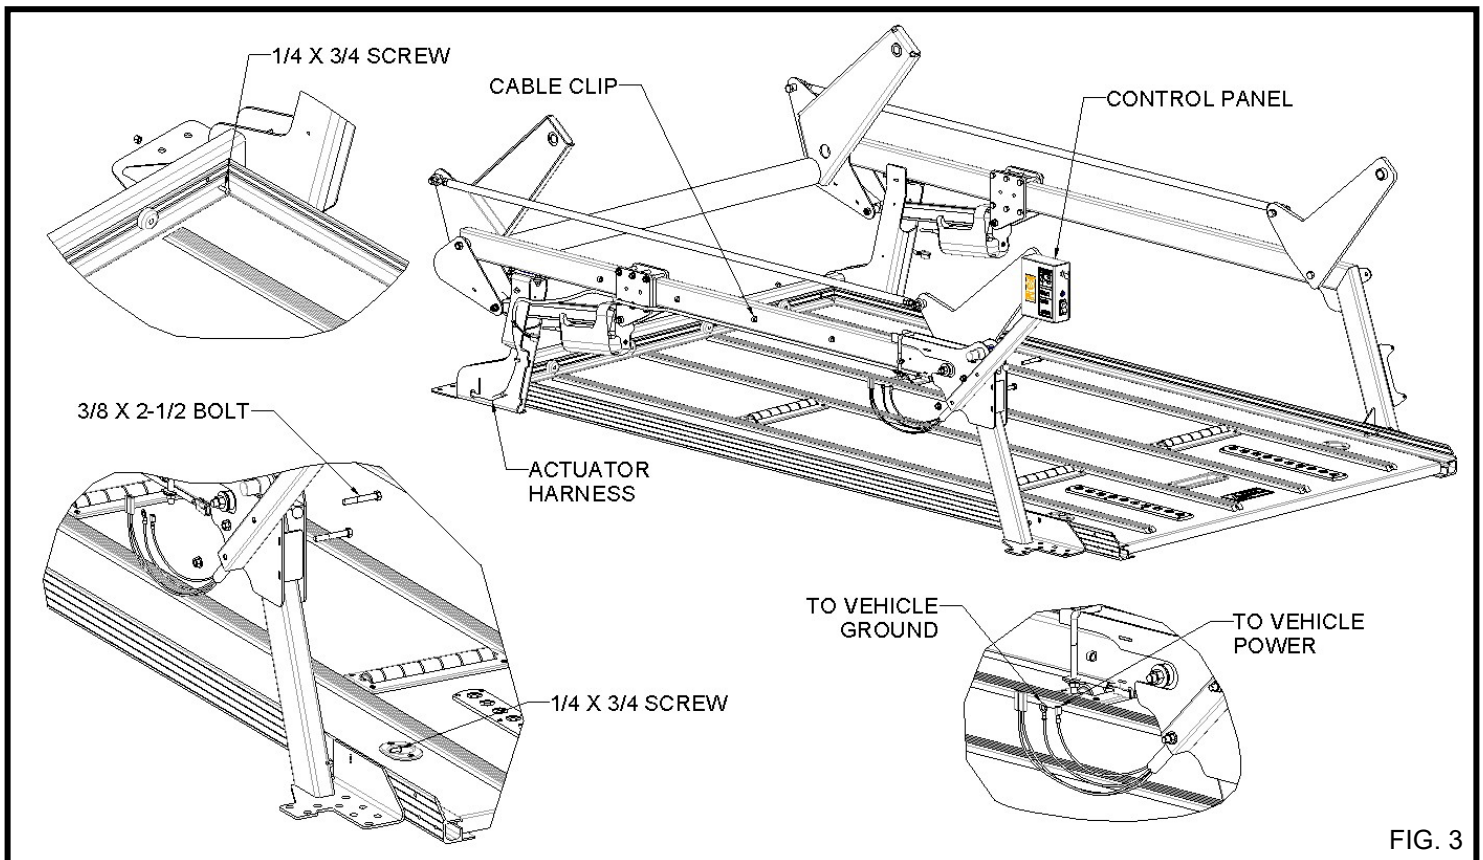

FIG. 3
6.10 Place the bottom deck in the vehicle (**FIG.3**) and secure it at the front and rear with (4) 1/4 X 3/4 socket button head screws and (4) lock nuts.
6.14 Attach the control panel ground wire to the vehicle ground (usually on the rear pillar). Connect the power wire to the control panel power wire, run it forward, and attach it to the vehicle's positive terminal. (**FIG.3**)